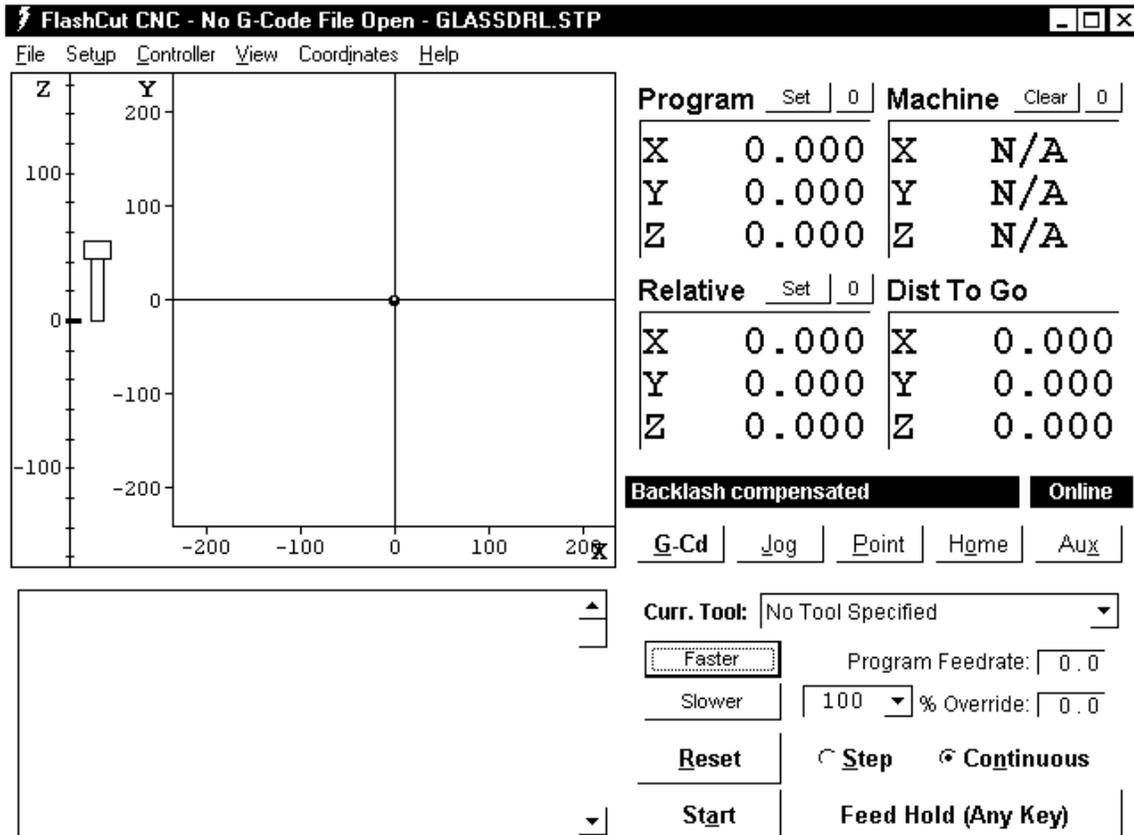

Figure 1: FlashCut program start up screen
- Check the breadboard around the CNC mill and make sure nothing is obstructing the path of the mill. The screen should look like Figure 1.